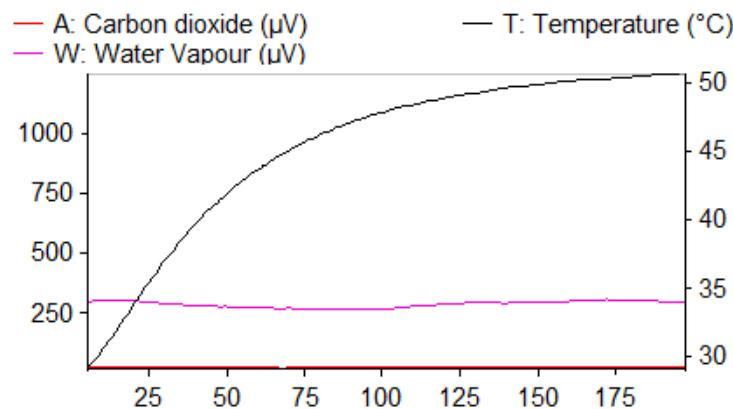

Figure 24. Data for the measurements during warming up the Monitor
- *Start* measurements ▶ (or *Sequence* → *Start*) and wait until the temperature will reach around 40-45 °C, see Figure 24.